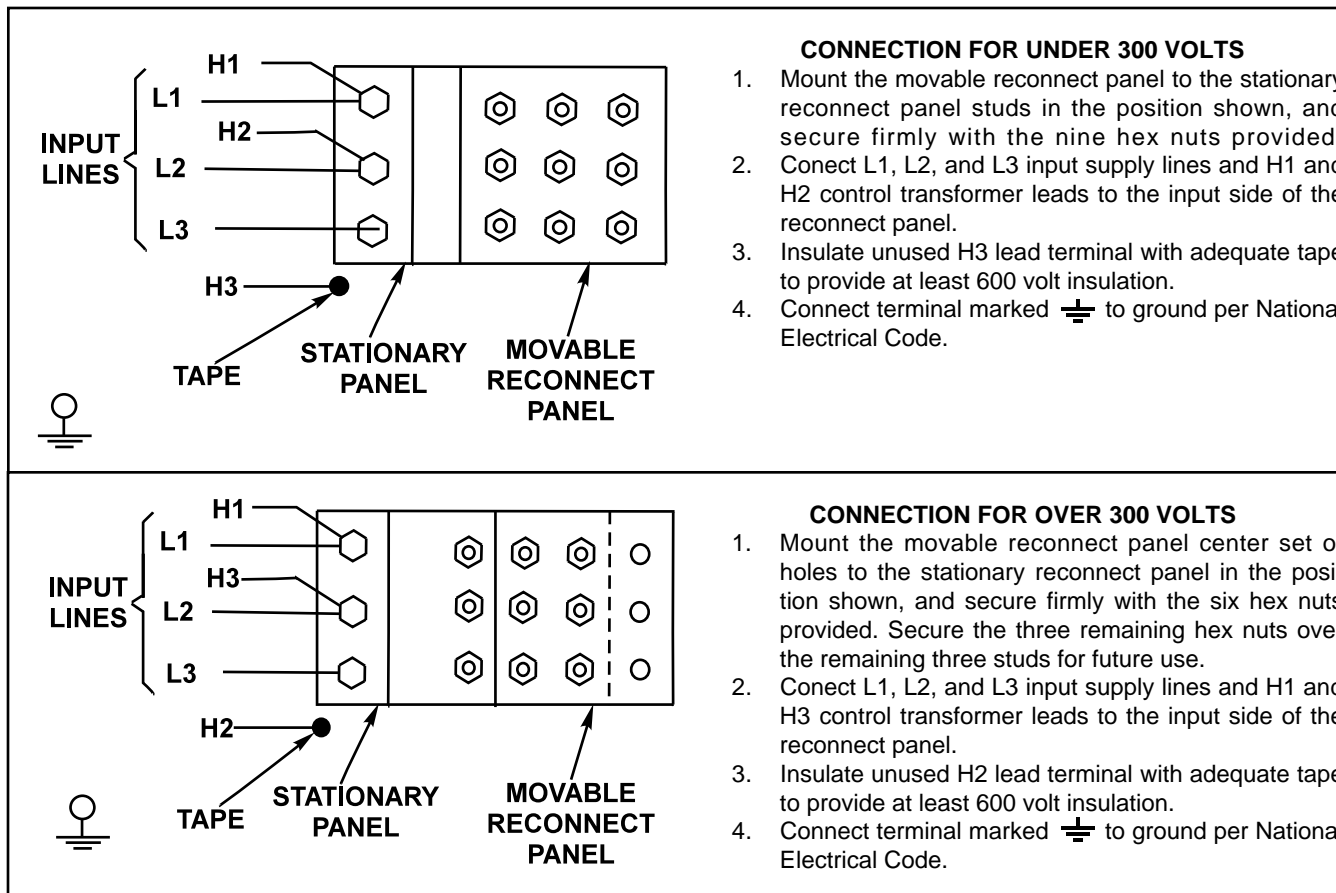

FIGURE A.3a - Input Connection Diagram
1. For 460 single voltage, 230/460 Dual Voltage, 220/440 Dual Voltage, 415 Single Voltage or 575 Single Voltage, refer to Figure A.3a.